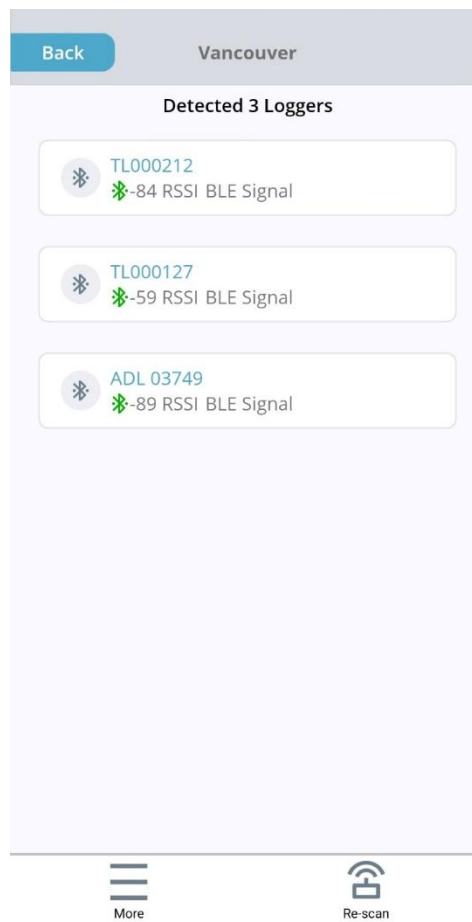

Figure 5: Device Manager Window
3. The Device Manager window is displayed (Figure 5). Select the logger using the specific serial number from the menu to connect via Bluetooth.